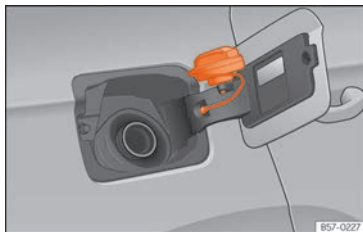

Fig. 218 Fuel tank flap with tank cap attached.
- Place it in the space on the hinge of the open flap »» **Fig. 218**.